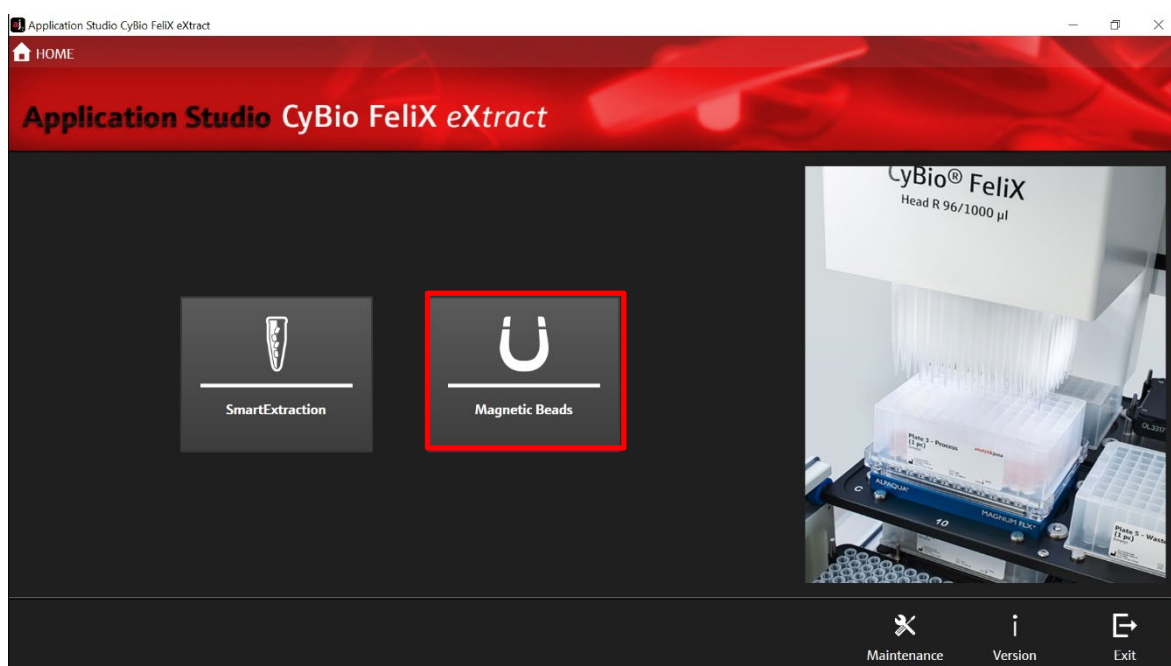

Figure 20: Selection of the Magnetic Beads protocol.
4. Select "innuPREP Virus TS RNA Kit 2.0 – FX" (→ see Figure 20).